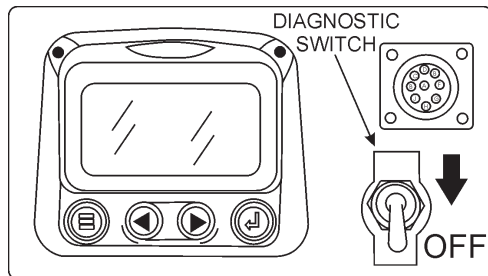

Figure 38. Diagnostic Switch (OFF position)
1. Before starting the engine, make sure the diagnostic switch (Figure 38) on the Diagnostic Display Panel Assembly is in the “OFF” position.
2. Switch the **MAIN**, **GFCI** and **LOAD** (Figure 38) circuit breakers to **OFF** position.